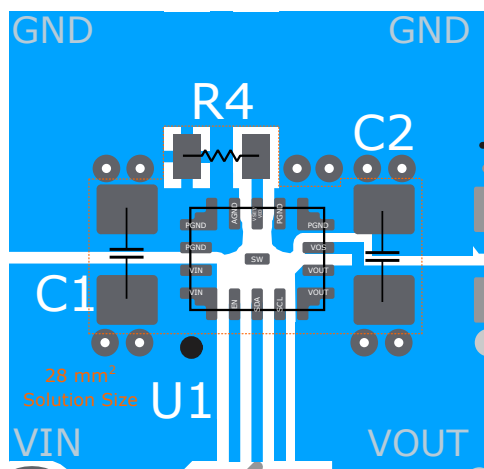

Figure 9-28. Layout Example
- Refer to Figure 9-28 for an example of component placement, routing, and thermal design.